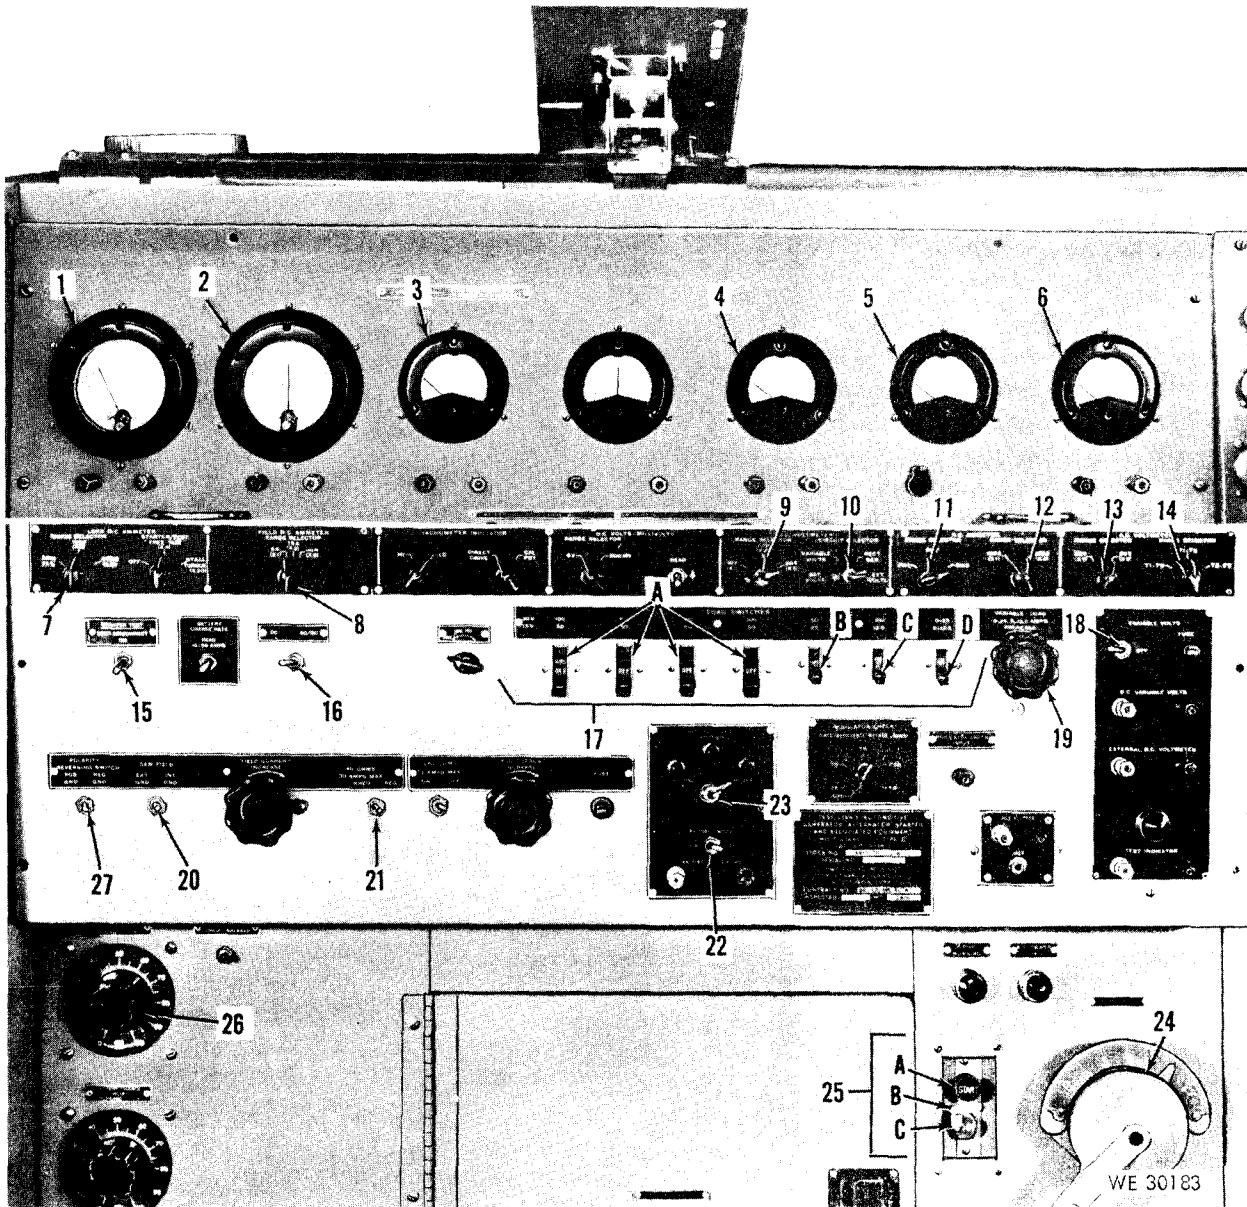

Figure 47. Switches, controls, and meters used to perform 100-ampere generator (alternator) performance test and generator (alternator) regulator test.
Note. The key numbers shown below in parentheses in this section refer to figure 47 except where otherwise indicated.
counterclockwise, and all on-off toggle switches to "OFF" position (some toggle switches have center position as "OFF") (fig. 47).
- (8) Rotate the ac ammeter phase selector switch (11) through the "PH1," "PH2," and "PH3" positions. The amperage reading on the ac ammeter (5) should not differ by more than 10 amperes for all three positions on the ac ammeter phase selector switch.
- (9) Rotate the ac voltmeter phase selector switch (14) through the "T1-T2," "T1-T3," and "T2-T3" positions. The voltage reading on the ac voltmeter (6) should not differ by more than plus or minus 1 volt for all three positions on the ac voltmeter phase selector switch.
Note. If test results are not obtained as indicated in paragraphs (2) through (9) above, check the indicator knob on all rotary switches under the meters (fig. 47) to be sure the knob is secure on the shaft of the switch and pointing to the correct position on the switch dial. If this condition exists, place the knob and switch shaft in the correct position on the switch dial and tighten the set screw in the knob securely.
- (10) Turn the speed control handle (24) partially counterclockwise until the varidrive assembly speed is reduced ¼-speed. Place the switches and controls in table 7 above, in positions indicated in column 3*b* of the table. Stop the varidrive assembly by depressing the stop button (25-C) on the drive control (25).